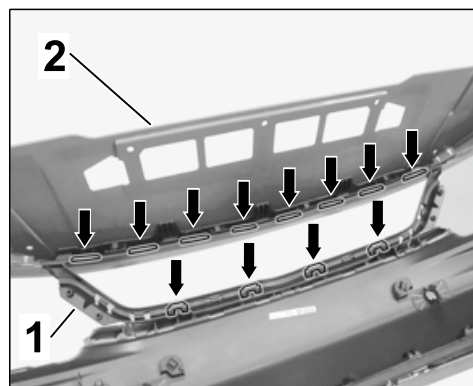

Figure 19
- 5.3 Clip centre grille (open) $\Rightarrow$ *Figure 19 -1-* into the front apron $\Rightarrow$ *Figure 19 -2-* ($\Rightarrow$ *Figure 19 -arrows-*).